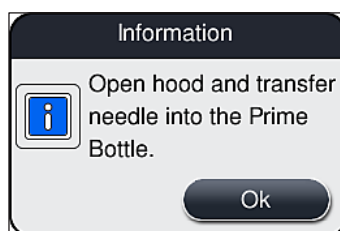
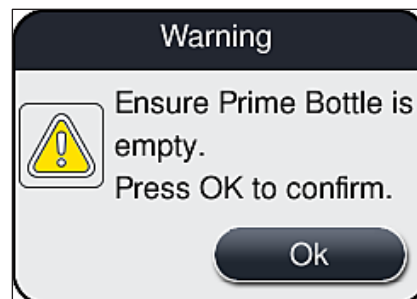

Fig. 97
Fig. 101
3. Observe the following information message (→ Fig. 97).
5. Stick the needle unit (→ Fig. 98-1) in the prime bottle (→ Fig. 98-3) and acknowledge the information message (→ Fig. 97) with **OK**.
4. Note the following information messages (→ Fig. 96), (→ Fig. 97) and (→ Fig. 101) and confirm each with **Ok**.